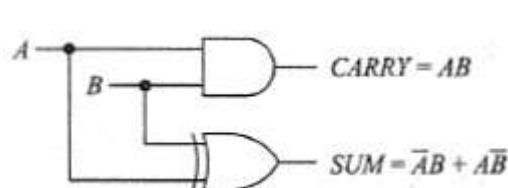

Figure 6.2: Half-adder
- It is a logic circuit with two inputs and two outputs (Fig. 6.2).